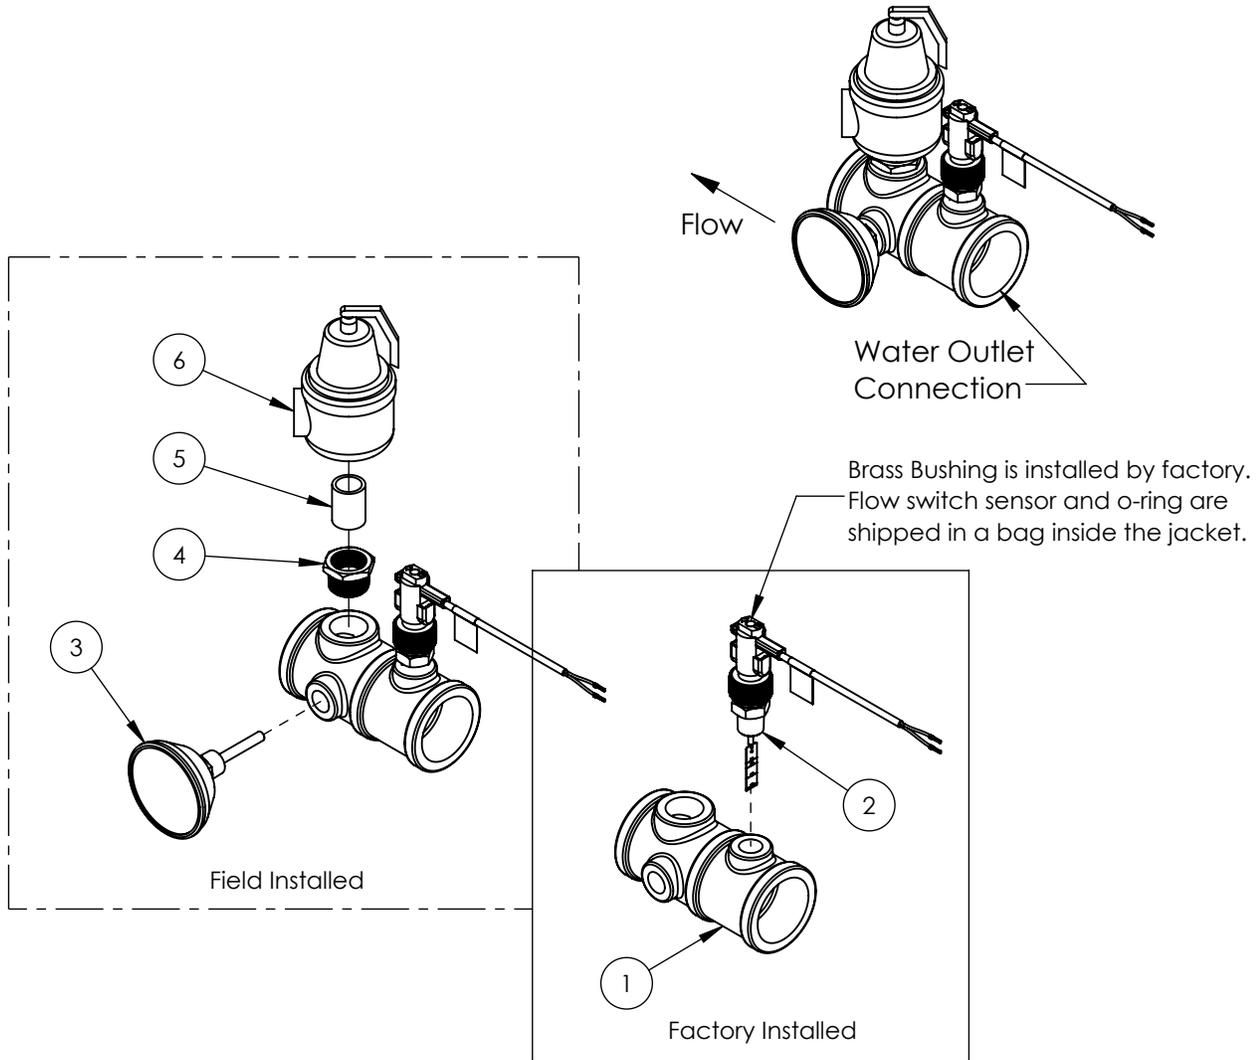

Figure 17: Relief Valve Package Assembly
1. The relief valve, T&P gauge, and required fittings ship loose with the appliance. These parts must be installed to the outlet as shown in Figure 17.